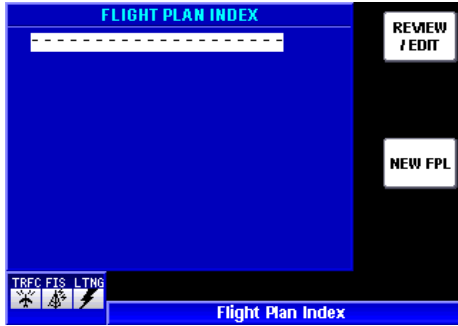

Figure 1-110
1. Press the **FPL** Key to toggle to the **FLIGHT PLAN INDEX** Page. Initially, if no flight plans have been stored, the display will appear as shown in Figure 1-110.